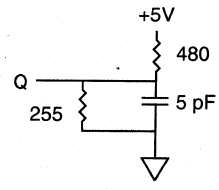

Fig. 2 OUTPUT LOAD EQUIVALENT
6. Output loading is specified with CL = 5pF as in Fig. 2. Transition is measured ±500mV from steady state voltage.